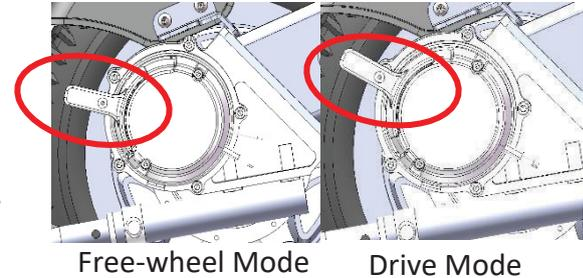

Fig 4-2
1. Each motor has an electromagnetic brake handle at the rear, see Figure 4-2.